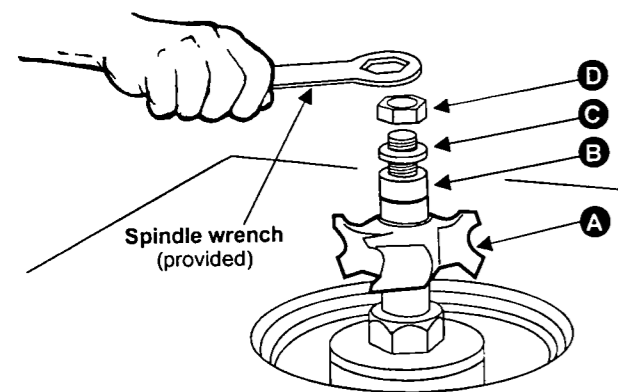

FIGURE 10
6. Place the draw bar into the bottom of the main shaft and tighten the nut (D), Figure 10, with the spanner wrench.
3. Place the cutter (A), Figure 10, onto the spindle, orientated in the proper direction.
4. Place the spacers (B), and keyed collar (C) onto the spindle.
5. Place the washers and nuts (D) onto the spindle.